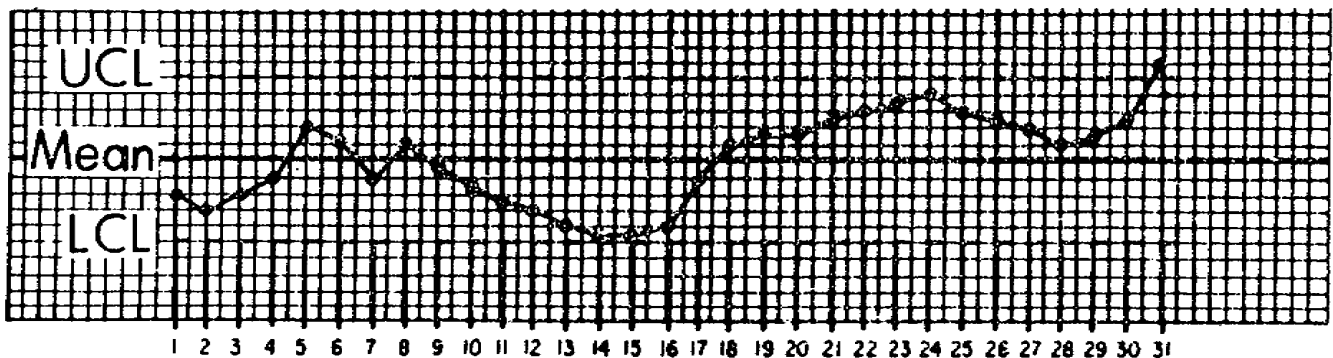

Figure 25
a. At this point you must learn how to evaluate a group of plots on the control chart, and determine what to do with your evaluation. Figure 25 is an illustration of a process control chart showing variations over a 31-day period.